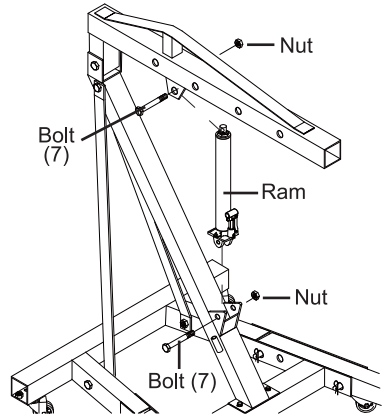

Figure 9
9. Use a Bottom Ram Bolt (7) and Nut (8) to attach lower end of the Ram to the Post and a Top Ram Bolt (7) and Nut (8) to attach the top of the Ram to the Boom. See Figure 9.